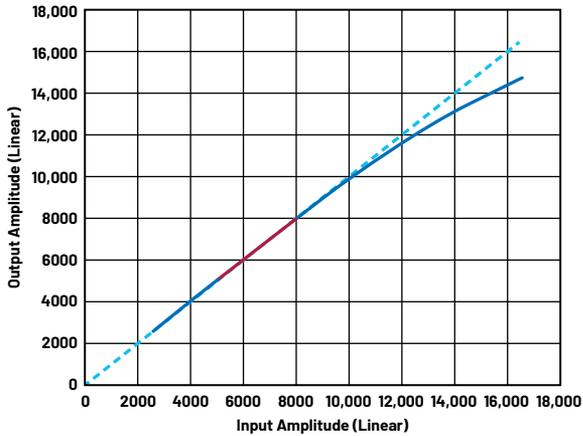

Figure 6. Typical AM/AM curve. The linear region is in red.
- ▶ **Rx/Tx Normalization:** Users should set the receiver/transmitter normalization to the region where the data is linear. In Figure 6, the linear region is shown in red. In this region the power of data has not reached the compression region and is high enough for gain calculation. Once the region is selected, DPD can make an estimate on the gain of the transmitter and receiver, and proceed with further processing on the algorithm. For most cases, -25 dBFS to -15 dBFS should accommodate most standard PAs. However, users should still pay attention as special PAs could have very different shapes of AM/AM curves, in which case a proper modification will be needed. This will be described in more detail in later sections of this article.